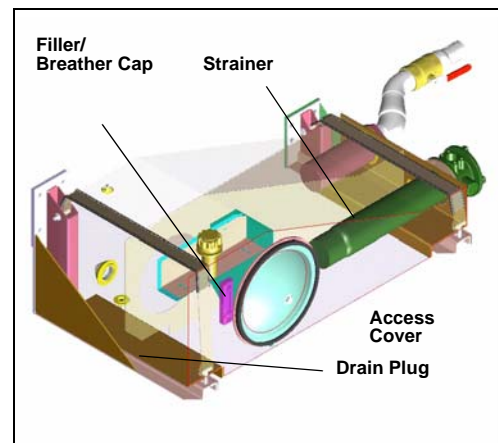

Figure 106. Hydraulic tank
8. Once emptied, reinstall the drain plug (Figure 106. "Hydraulic tank").